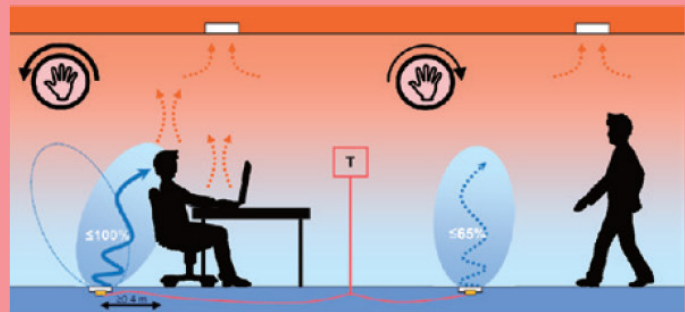

Figure 5
- **Option “V = Vertical”** (figure 5)
- Includes items 5 to 11 above.
- Optional Configuration "V = Vertical" (figure 5):